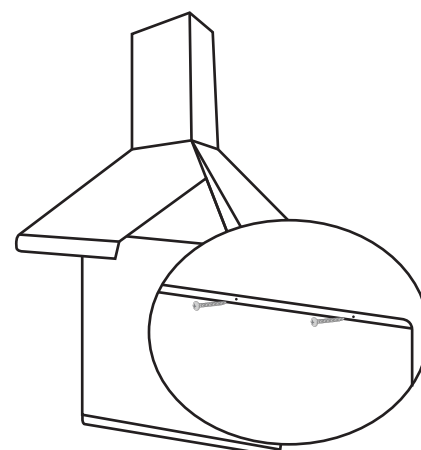

Figure 3
6. Fix the backsplash to the wall with screws on the bottom and the top (see Figure 3).